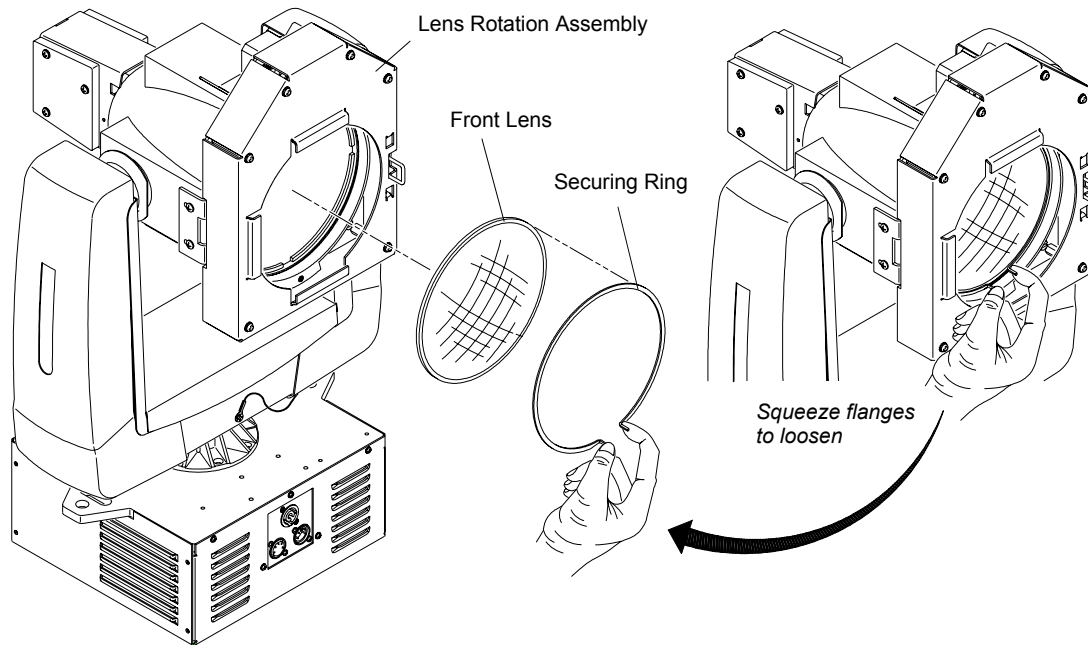

Figure 4-3: Replacing Front Lens
- Step 2. At securing ring, squeeze flanges and remove (**Figure 4-3**).